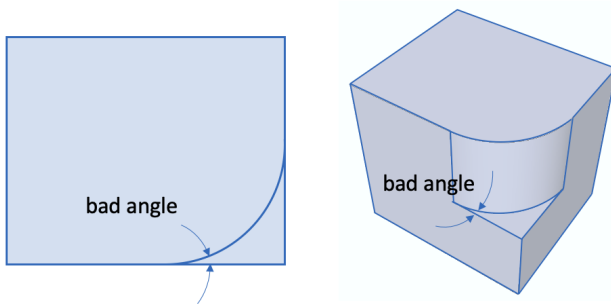

Figure 5. Bad Angle at Vertex Example
- **At Vertices** - For vertices, the angle formed by two attached curves is measured. Vertices where angles less than the **Bad Angle** threshold. Figure 5 shows an example of a bad angle where the resulting tet or hex mesh may result in poor mesh quality. Note that depending on how the angle is measured at the vertex, the small angle may be also be identified if **360.0-angle** is less than the **Bad Angle** threshold. The **blunt tangency** or **collapse angle** operations are useful for removing bad angles at curves.